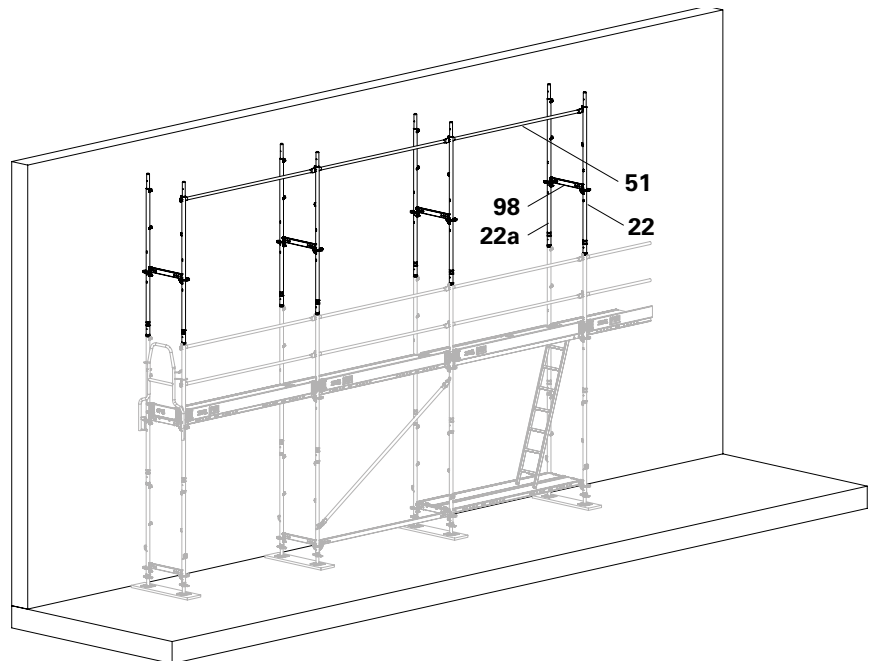

Fig. B4.01
3. Connect Easy standards with horizontal ledgers (**98**). Secure the wedges. (Fig. B4.01)